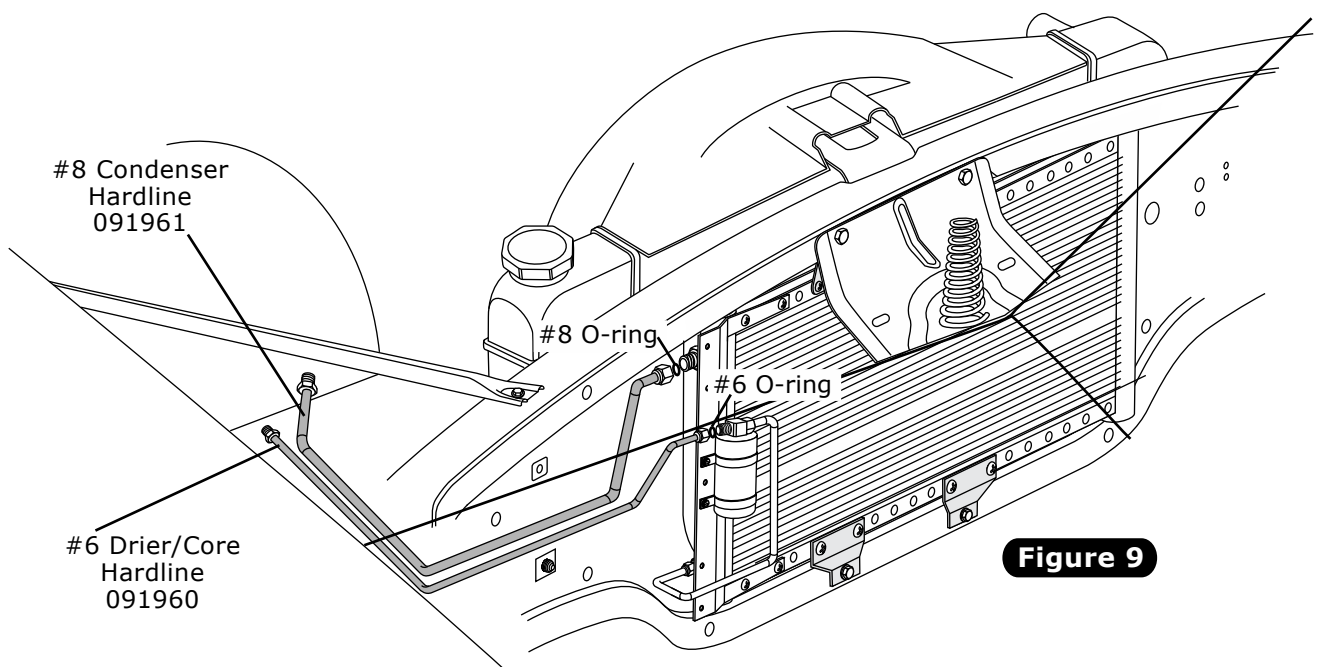

Figure 9
1. Lubricate a #6 O-ring (See Figure 4a, Page 6) and install the #6 drier/core hardline as shown in Figure 9, below. Tighten fittings as shown in Figure 4a, Page 6.
2. Lubricate a #8 O-ring (See Figure 4a, Page 6) and install the #8 condenser hardline as shown in Figure 9, below. Tighten fittings as shown in Figure 4a, Page 6.